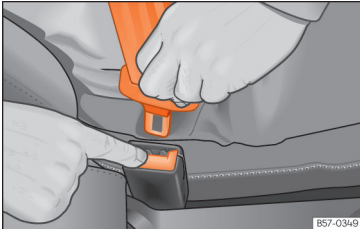

Fig. 27 Release the seat belt's latch plate.
- Press the red button on the buckle » » » Fig. 27. The latch plate is released from the buckle.